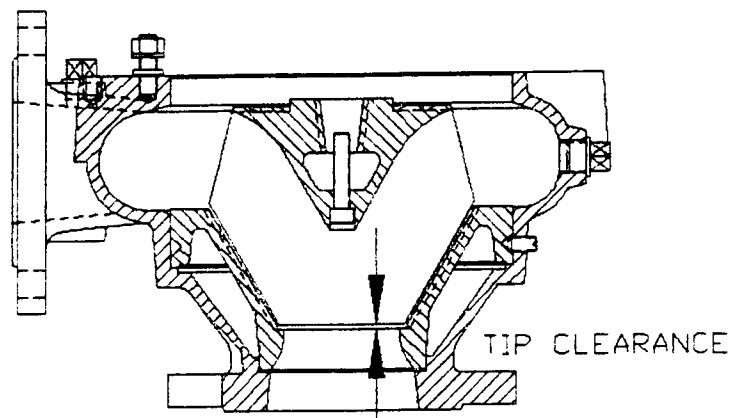

FIGURE 2
Whenever a new impeller is fitted, without also replacing the liner or suction cover at the same time, the following clearance check must be done: install impeller-bearing frame assembly into volute casing assembly. If the tip of the impeller touches the suction ring (408) or the lip in the liner -- or if there is less than 1mm clearance between the tip and the lip when the spiral edge of the impeller is firmly seated against the conical taper inside the liner, then the impeller tip must be ground off -- parallel to the suction flange -- until 1 to 2mm clearance is obtained. See Figure 2.